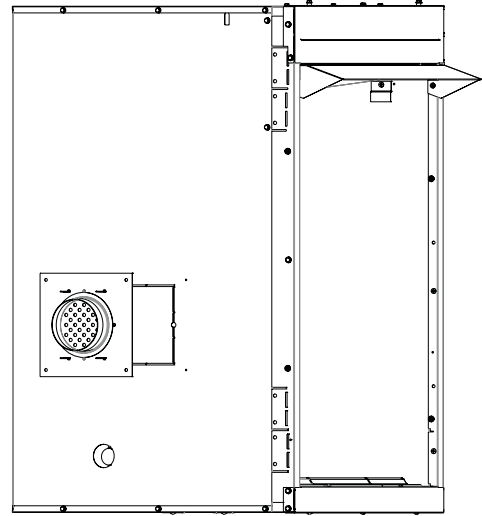
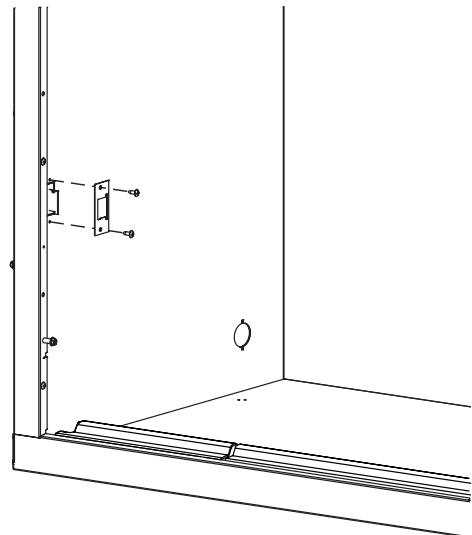

Figure 15
Figure 16
3. Insert Slide Assembly through the cut-out as shown in **Figure 15**. Before you fasten ensure that the handle penetrates the inner firebox wall. **See Figure 16**. Fasten the Slide Assembly with the four 10 x 1/2 Hex Head Screws provided.
4. Fasten the Handle Retainer to the firebox side with two 10 x 1/2 Phillips Truss Head Screws as shown in **Figure 16**.